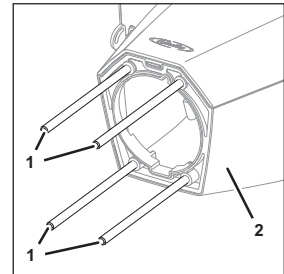

Fig. 17
9. Remove the threaded bolts (Fig. 17/1), on the stand (Fig. 17/2) of the unit, by unscrewing the threaded bolts from the stand (Fig. 17/2).